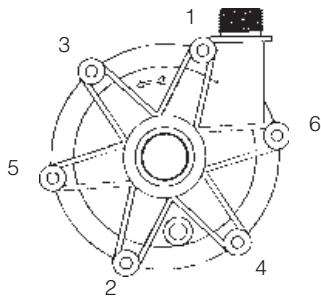

Figure 3
- Place wet end assembly (comprised of items 1-9) into the motor adapter (item 11). Grasping the barrier at opposite bolt tabs, carefully lower the wet end assembly into the motor adapter/drive assembly. Line up the tabs of the wet end between the tabs on the motor adapter to avoid pinching fingers. Once seated, rotate the wet end until bolt holes line up.
- Align mounting holes and install 6 mounting screws and washers (items 12A, 12B & 12C) from hardware package. Hand tighten screws using pattern shown in Figure 3.
1. If possible, set motor on fan cover with drive magnet assembly facing up. Place the second stage impeller assembly (comprised of items 2 and 8) into the barrier (item 9). Grasping the barrier at opposite bolt tabs, carefully lower the barrier assembly into the motor adapter (item 11). Line up the tabs of the barrier between the tabs on the motor adapter to avoid pinching fingers. Once seated, rotate the barrier until the bolt holes line up.
2. Install the housing o-ring (item 4) on the barrier. Lubricate the o-ring with a compatible lubricant to facilitate o-ring installation.
3. Install the second stage impeller housing (item 7) onto the barrier being careful not to dislodge the o-ring. Align the bolt hole tabs and gently press together (bolt clearance alignment is critical).
4. Install and lubricate the diffuser o-ring (item 6). Install the diffuser assembly (item 5) making sure to keep bolt clearance alignment straight and making sure not to dislodge the o-ring.
5. If the first stage impeller drive shaft (item 3) was replaced, reassemble it to the impeller assembly by matching the three tabs on the end of the drive shaft with the three recessed slots in the impeller assembly (item 2) and press together.
7. Install and lubricate the housing o-ring. Coming straight down, gently place the impeller housing (item 1) onto the pump with the ceramic front spindle support sliding into the bushing on top of the first stage impeller assembly (items 2 and 3). Orient the housing with the directional arrow on top, the drain boss location on the bottom and with the mounting holes aligned. Install the six mounting bolts, washers, and lock washers (items 12A, 12B, and 12C). Make sure the housing o-ring is not dislodged or pinched. Hand tighten the mounting bolts to pull the pump together using the pattern shown in figure 3.
8. After the housing is tightened down, insert a screwdriver into the suction and push down on the front of the first stage impeller assembly (**Note:** Do not press on gray thrust ring) to completely set the impeller drive shaft (item 3) into the second stage impeller (item 8). Push firmly on the three areas separated by the spindle support arms in the suction. Rotate the motor fan to verify nothing is rubbing.
9. **56C frame pumps.** Carefully slide the pump assembly over the drive magnet assembly. Orient the discharge port to either the 12 or 9 o'clock position. Make sure the rabbet on the motor is fully seated into the motor adapter (item 11). Align the bolt holes in the motor adapter and the motor. Install 4 bolts and washers (items 14A,14B,14C) and tighten securely.